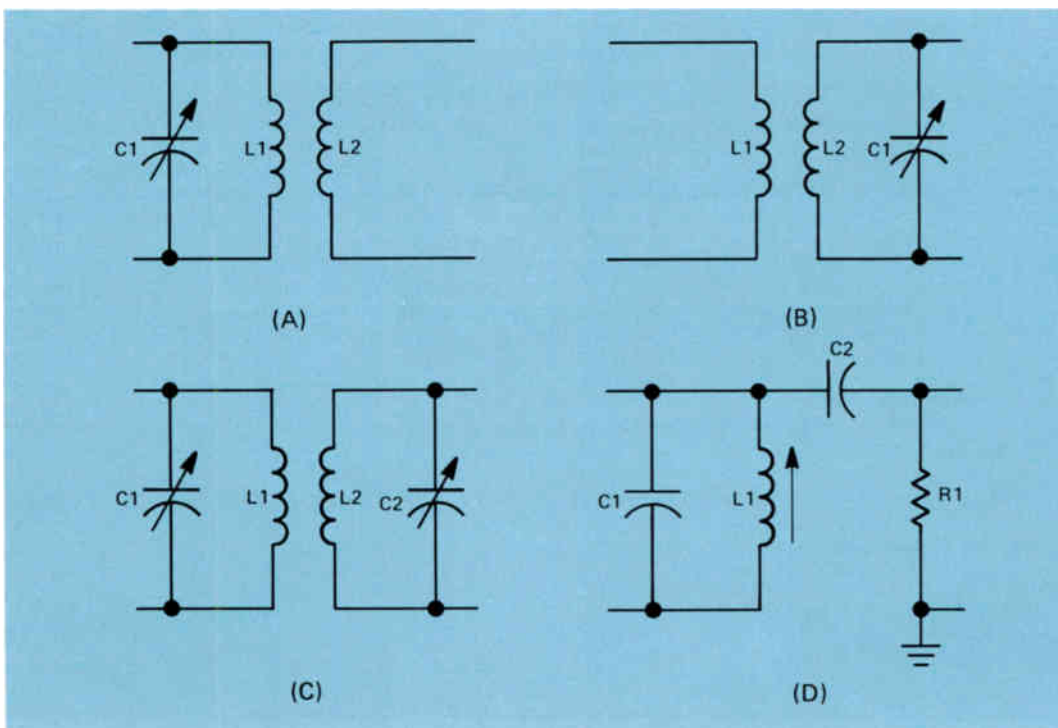

Figure 18. Four basic loads that might be found in rf amplifiers.
Four basic loads that you might run into in rf amplifiers are shown in Fig.18. In the one shown at (A), the load is a parallel-resonant circuit made up of L1 and C1. L1 is inductively coupled to L2 in order to feed the signal to the next stage.
In the circuit shown in Fig.18(C), we have two resonant circuits. L1 and C1 will be in the output circuit of the rf amplifier, and they form a parallel-resonant circuit. L1 is inductively coupled to L2 so that voltage is induced in series with each turn of L2. Since the voltage is
In the circuit in Fig.18(D), we have a parallel-resonant circuit made up of C1 and L1 as the load. The parallel-resonant circuit will act as a high resistance so that considerable signal voltage will be developed across it. This voltage is coupled through C2 to the following stage. You will run into all four types of loads shown in Fig.18 in rf amplifiers and related circuits.